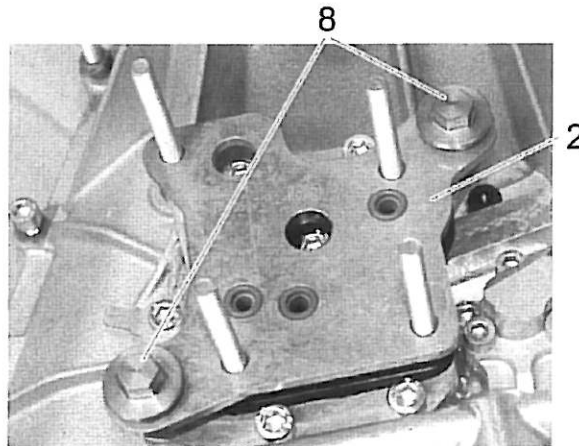
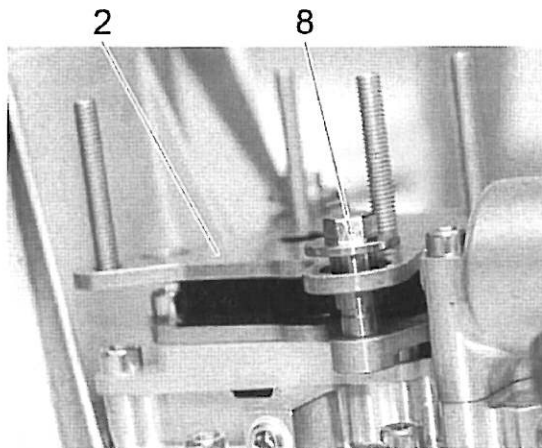

Figure 17
Figure 18
12. Attach the two screws (item 8) and tighten them up to the specified tightening torque. See Figure 17 and Figure 18.